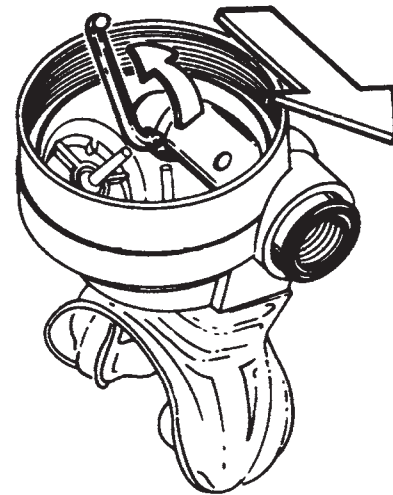

Figure 1
1. Slide back the hose protectors from both ends of the hose. While holding the hex nut (item 24) with a 3/4" wrench, use a 11/16" wrench to unscrew the swivel end of the hose. Use a 9/16" wrench to unscrew the hose from the 1st stage body.
2. Remove and discard the o-rings (items 29 and 30) from both ends of the hose.
3. Remove the color ring (item 1) from the front cover by turning it counter clockwise by hand.
4. Place the two pins of cap wrench (G1001-88) into the slots of the retaining ring (item 2). Turn counter clockwise to remove.
5. Lift out the purge cover (item 3) and diaphragm (item 4).
6. Use a 3/4" wrench and remove the hex nut (item 24) by unscrewing it counter clockwise.
7. Remove the cap (item 13) by turning it counter clockwise using the screwdriver blade of the cover wrench (G1001-88).
8. Remove and discard the o-ring (item 12).
9. Remove the adjustment screw (item 11) with a 1/8" flat-blade screwdriver, turning counter clockwise.
10. Remove the small plastic washer (item 10) and the spring (item 9) from the stem of the adjustment screw.
CAUTION: The lever (item 5) must be pulled up and out of the way prior to sliding the valve body (item 16) over in the case. Failure to do this will cause the lever to become stuck in the exhaust port of the case. *Figure 1.*
- a) Rotate the lever (item 5) up against the side of the case. *Figure 1.*
- b) Push the valve body (item 16) into the case from the hose side until the head of the pin (item 6) is exposed.
13. Turn the valve body up, and the poppet and seat assembly (items 14 & 15) will fall out.
14. Remove and discard the seat (item 15).
15. Remove and discard the valve body o-ring (item 17).
16. Use a medium flat-blade screw driver, and turn the orifice (item 25) counter clockwise until the threads disengage.